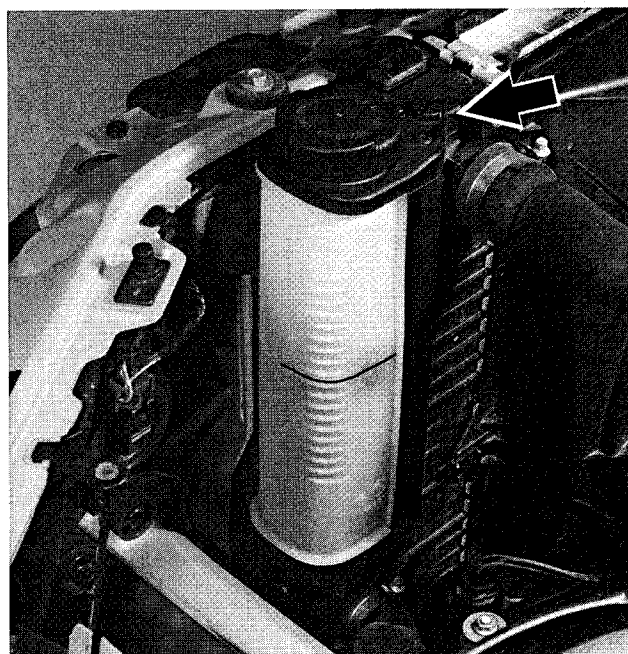

Fig. 7. Cooling system bleed screw on radiator (arrow). Note cold level mark on expansion tank.
- Loosen bleed screw on radiator expansion tank. See Fig. 7.